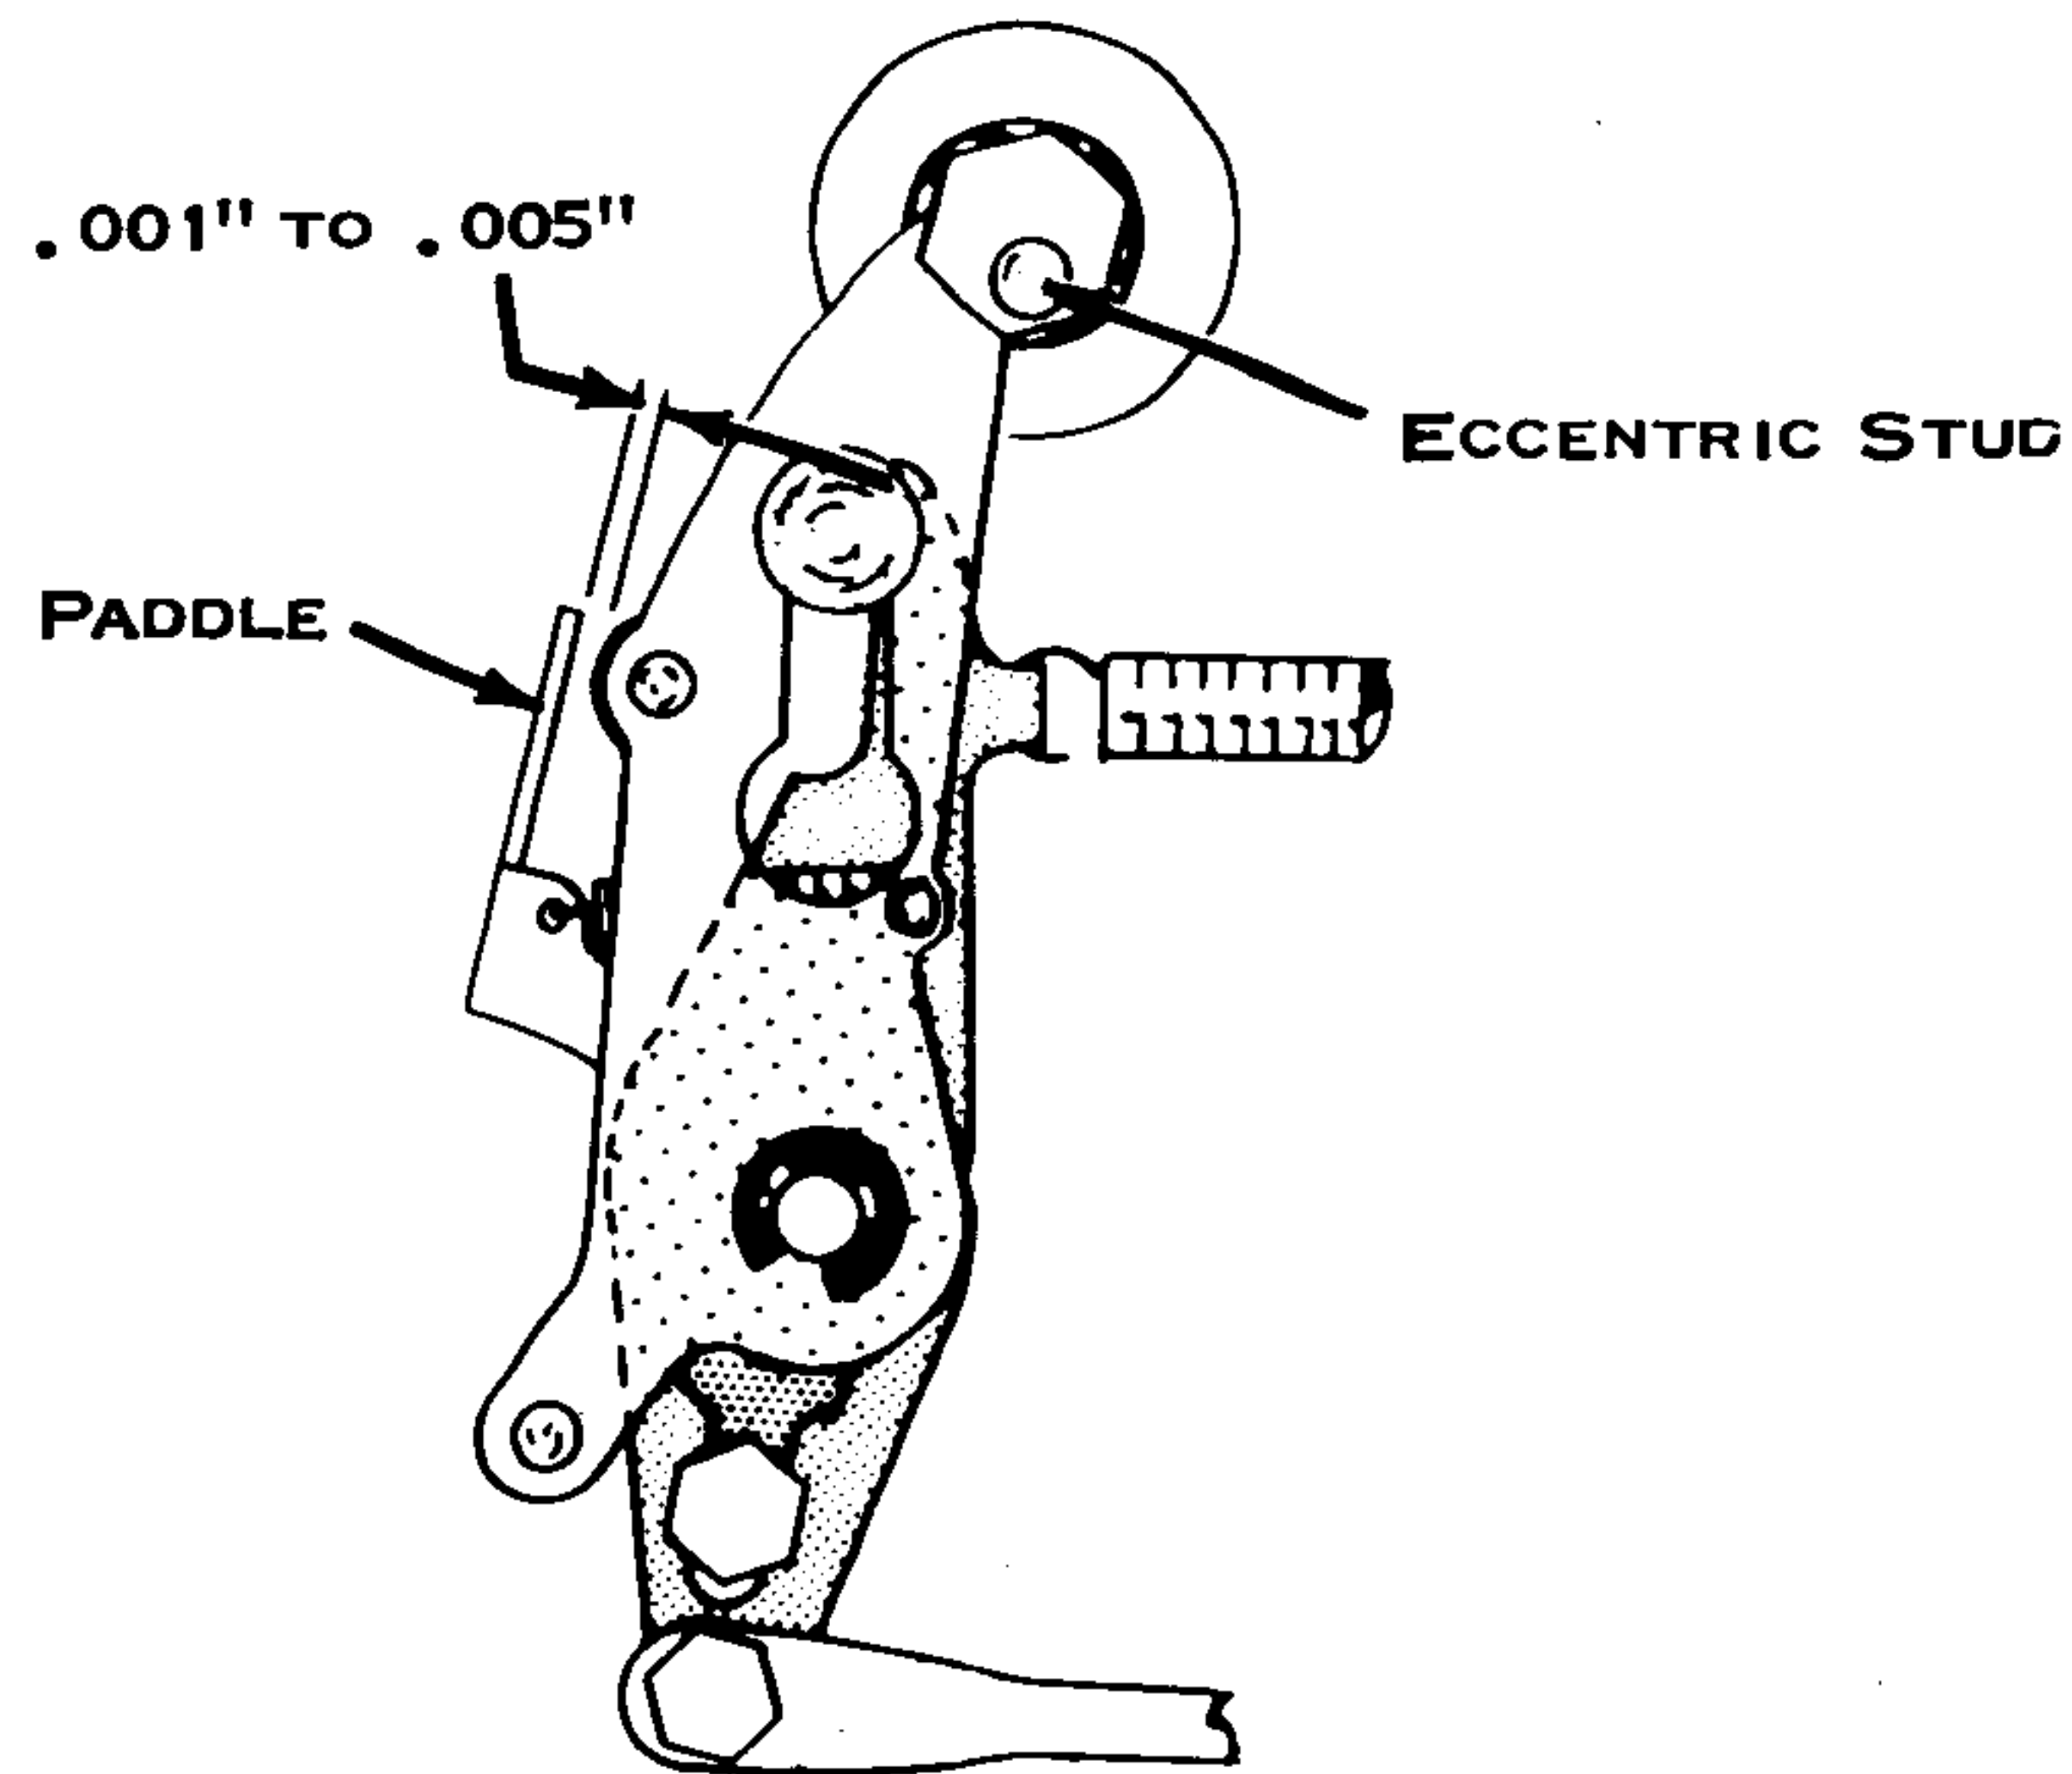

Figure 82. Rotate Eccentric Arm
8. Rotate Eccentric Arm (Fig. 82) - With the type head removed and the machine half cycled using an upper case negative four selection, form the rotate eccentric arm paddle to clear the rotate arm barrel by .001" to .005".
9. Rotate Arm Eccentric Stud (Fig. 83, Ref. Fig. 82) - With the machine half cycled under power and using an upper case -5 character, manually withdraw the detent and remove the head play by rotating the type head lightly in a clockwise direction. Allow the detent to re-enter slowly. The detent should re-enter .010" to .020" from center of the notch. This adjustment is made with the eccentric stud at the top of the rotate arm. The compensator damper spring must be fully compressed against the power frame when checking the adjustment. Reseat the compensator roller after each adjustment of the eccentric. NOTE: The compensator roller should be 1/32" to 1/16" from the top of the slot when the adjustment is completed. Eccentric must be kept in lower RH quadrant.